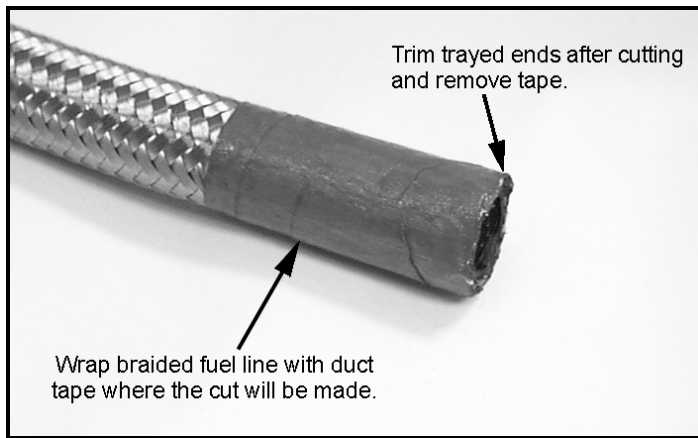

Figure 1
1. Measure the distance between each of the fuel components using the path you wish to route the fuel lines along accounting for bends, hose ends, connectors, and offsets. Measure out and mark the location of the cut. Wrap the hose tightly with duct tape in the location of the cut mark. Measure again and re-mark the location for the cut. Remember to measure twice, and cut once. See Figure 1.
2. Cut the hose square using a fine tooth hacksaw or cut off wheel, cutting through the duct tape at the correct mark. See Figure 1.